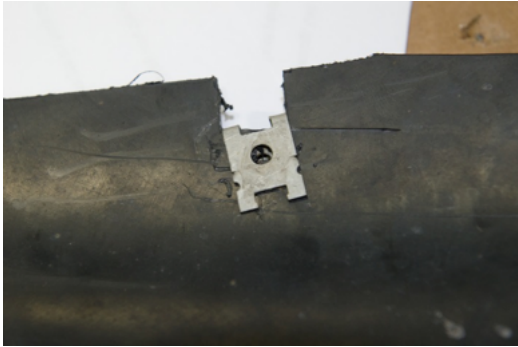

Figure 27
- I. Install u-nuts from factory liner over the holes. If there is too much material for the u-nuts to fit into position, trim the liner for proper fit. You can also cut slots for the u-nuts to slide through (fig. 27).